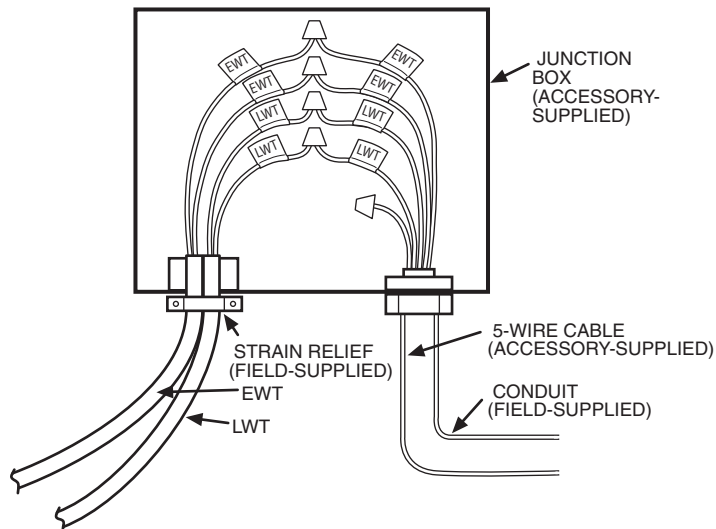

Fig. 12 — Typical Junction Box Connections (EWT and LWT Thermistors Shown)
16. Select one jacketed cable and strip back the jacket on both ends to expose the five wires. Pick any two wires and label both ends of each wire "EWT." Pick another pair of wires and label both ends "LWT." The fifth wire is not used. See Fig. 12.